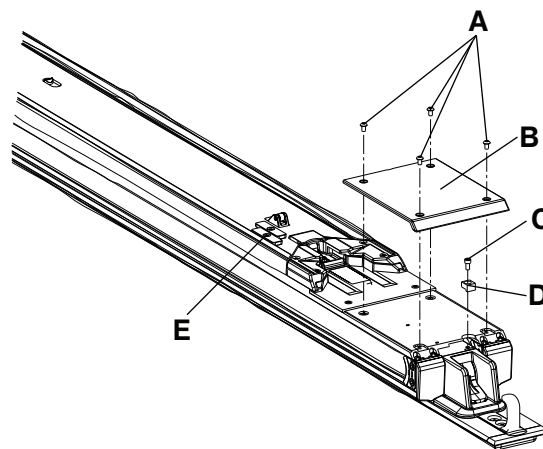

Figure 9 – Foot end transfer components
3. Using a T25 Torx driver, remove the four screws (A) that secure the foot end transfer wear pad (B) to the transfer extrusion (Figure 9).
4. Using a 5/32" hex wrench, remove the screw (C) that secures the trolley magnet activator (D) to the anchor extrusion to remove the trolley magnet activator (Figure 9).
5. Slide both transfer lock triggers (E) to extend and pull the transfer off of the anchor completely (Figure 9).